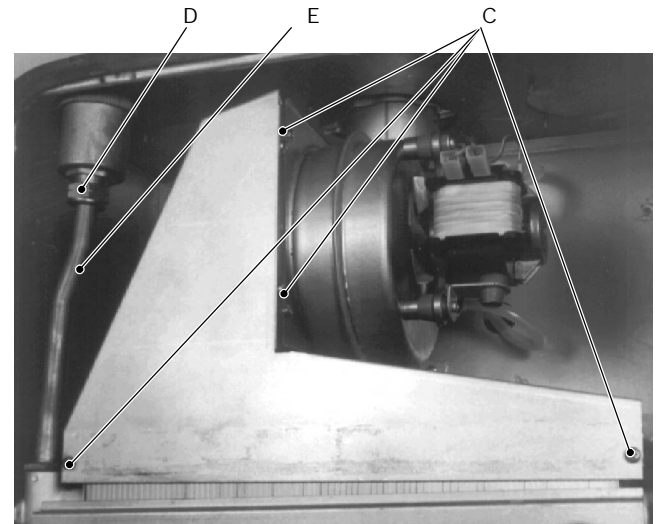

fig. 14b
- 4b Remove the front part of the flue gas hood by unscrewing the four screws C (fig. 14b)
- 9 Unscrew the pipe E (fig. 14b) from the heat exchanger;